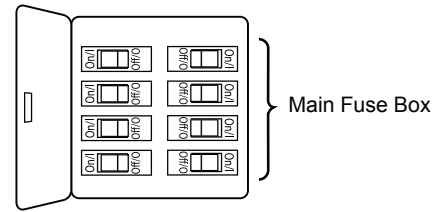
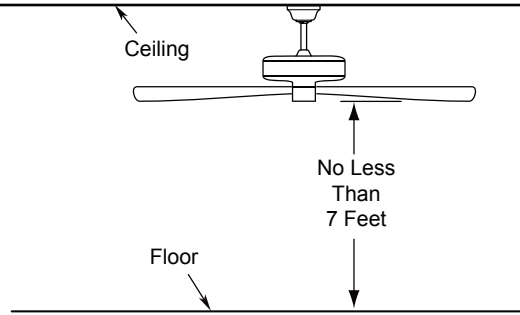

Figure 1
Figure 2
Your new ceiling fan will require a grounded electrical supply line of 120 volts AC, 60 HZ, 15 Amp Circuit. Electrical code requires use of a fan-rated outlet box to support the extra weight and motion associated with a ceiling fan. A fan-rated outlet box will be labeled as such and typically supports up to a 70lb ceiling fan. Fan-Rated Outlet Boxes vary in ratings and design. Ensure the ratings of your ceiling fan outlet box meet the requirements for the ceiling fan being installed. Figure 1, Figure 2 and Figure 3 depicts different structural configurations that may be used for mounting the outlet box.
## Low profile outlet box (Figure 1)
## Deep outlet box (Figure 2)
1. Remove the three stabilizer tabs and plastic bag from the motor. Discard the stabilizer tabs. (Figure 1)
2. Prior to assembly, set aside and save the hardware bags packaged with your fan. Remove the hanger ball by loosening the set screw in the hanger ball until the ball falls freely down the downrod. Remove the pin from the downrod, then remove the hanger ball. Retain the pin and hanger ball for reinstallation in Step 7. (Figure 2)
To avoid possible fire or shock, be sure electricity is turned off at the main fuse box before hanging. (Figure 1)
The fan must be hung with at least 7' of clearance from floor to blades. (Figure 2)
1. To set the code on receiver unit, slide dip switches to the same positions as set on the remote control. (Figure 1)
To avoid possible electrical shock, be sure electricity is turned off at the main fuse box before wiring. (Figure 2)
1. Assemble canopy by rotating key slot in canopy over shoulder screw in hanger bracket, taking care not to pinch the wires. Fully assemble and tighten second shoulder screw that was previously removed, then tighten another shoulder screw. (Figure 2)
2. Securely attach and tighten the canopy screw cover over the shoulder screws in the hanger bracket utilizing the key slot twist-lock feature. (Figure 2)
1. Secure the three blades using the 3/16"-24 truss head screw with spring washer/flat washer through the holes located on the bottom of the motor assembly. (Figure 1)
2. Attach the plastic cap assembly to the motor assembly, which is held in place by a magnet. (Figure 2)
1. **IMPORTANT:** Using a full range dimmer switch (not included) to control fan speed will damage the fan. To reduce the risk of fire or electrical shock, do not use a full range dimmer switch to control the fan speed. (Figure 1)
2. Restore electrical power to the outlet box by turning the electricity on at the main fuse box. (Figure 2)